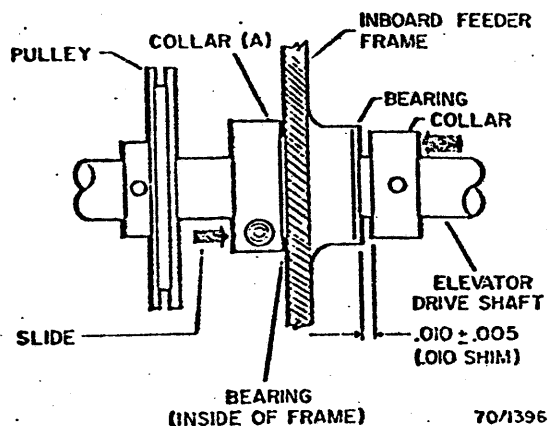

Fig. 3-32. Elevator Drive Shaft End-Play
1. Unlock collar A (Fig. 3-32).
2. Insert a 0.010 shim between collar (B) and the bearing. Push outboard on the shaft.
3. Slide collar (A) against the inboard frame and lock in place.